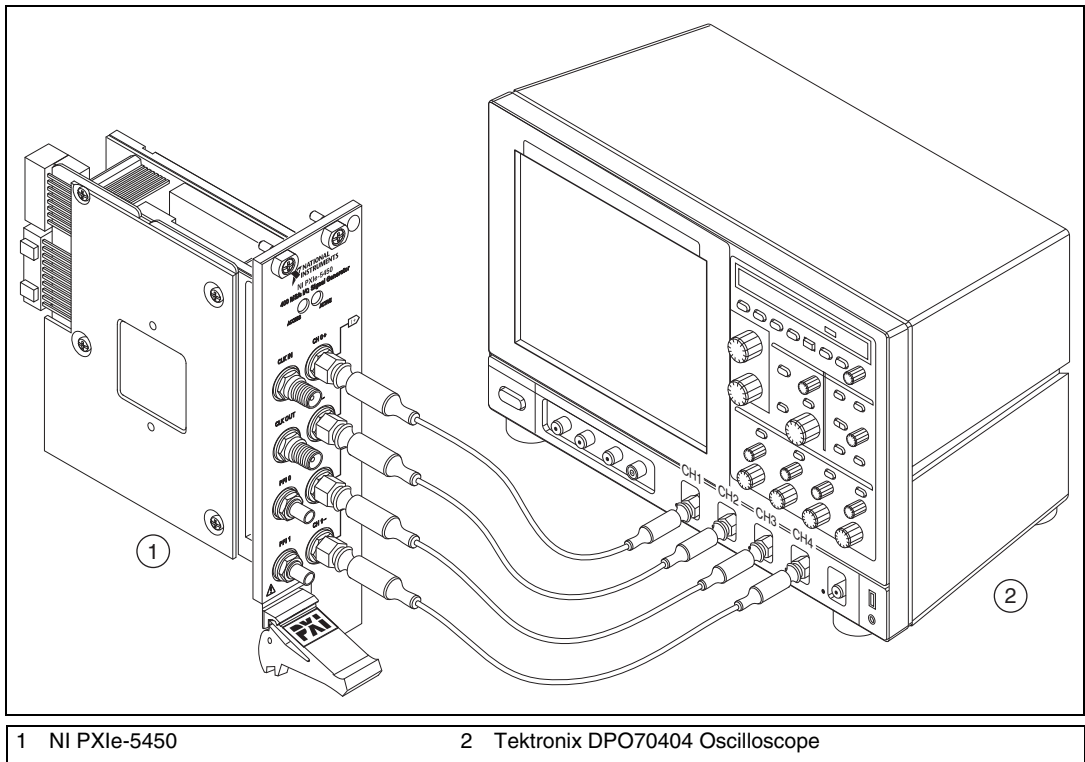

Figure 12. NI 5450 Connection to the Oscilloscope (CH 0 and CH 1)
1. Connect the devices as shown in Figure 12.